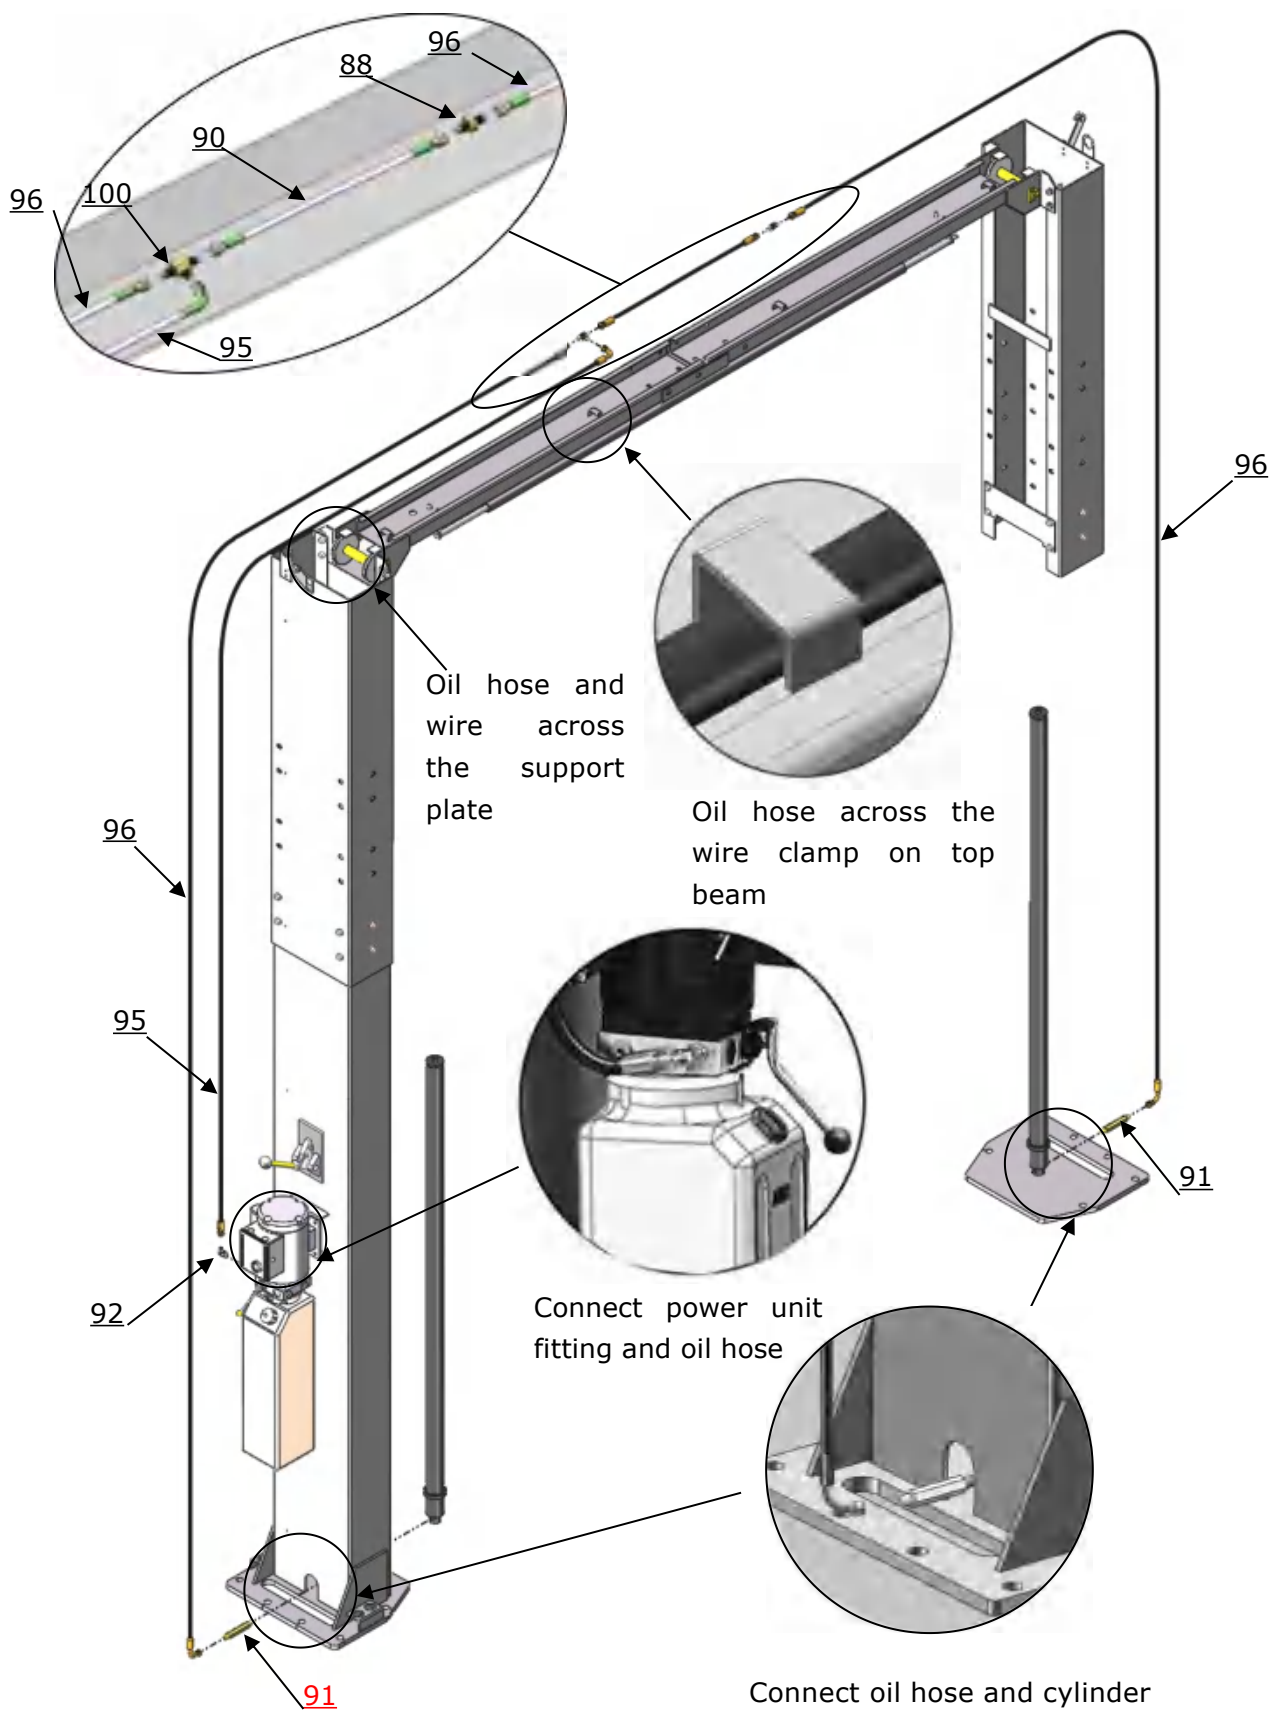

Fig.35
1. Oil hose installation of low setting.(Fig.35)